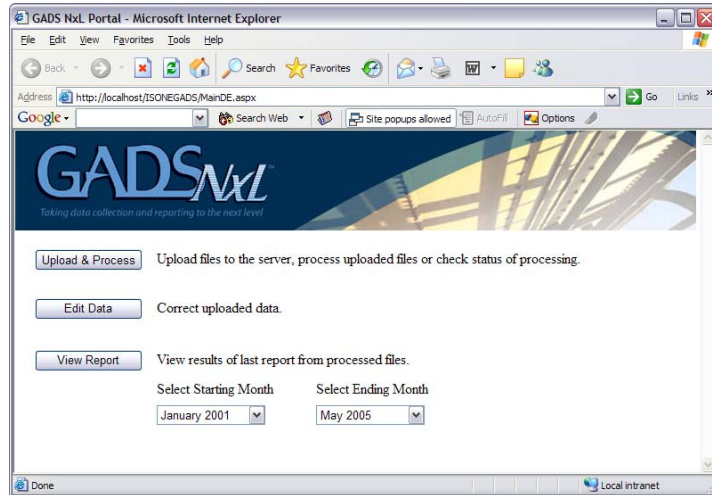

Figure 1. Opening Screen
The user interface (UI), shown in Figure 1 is the first screen displayed **once you have been authenticated**.
Figure 1 shows the options available to help you successfully upload your GADS data each month. Use this option to upload the 82-column standard NERC GADS ASCII file.